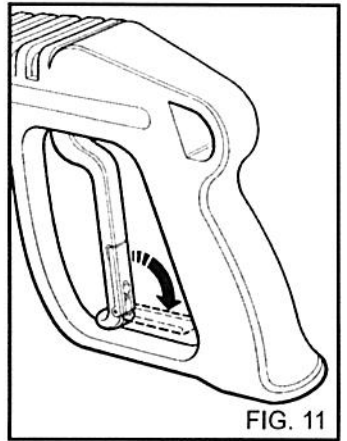

FIG. 11
- When the water cleaner is not used, close the safety device on the handle (fig. 11).